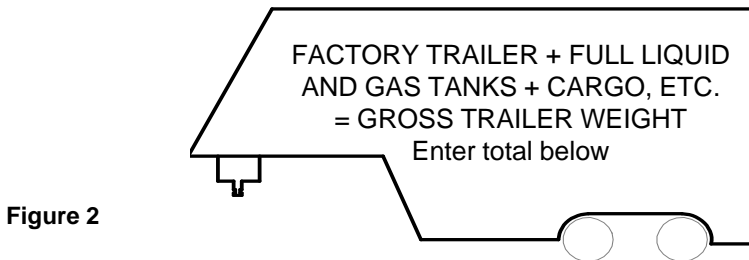

Figure 2
- Towing vehicle must have a manufacturer's rated towing capacity equal to or greater than the gross trailer weight (dry weight of the trailer plus payload of the trailer). (Figure 2)
Total calculated Gross Trailer Weight (Figure 2): \_\_\_\_\_.